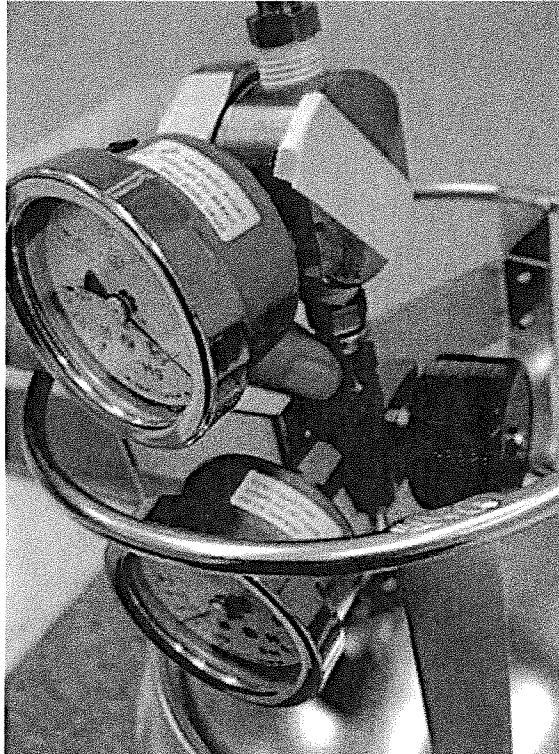

Figure 1. Mechanical regulator properly seated on Summa canister.
- 3.1.4 The flow controller has been seated properly when the nut spins freely during finger tightening (Figure 1).